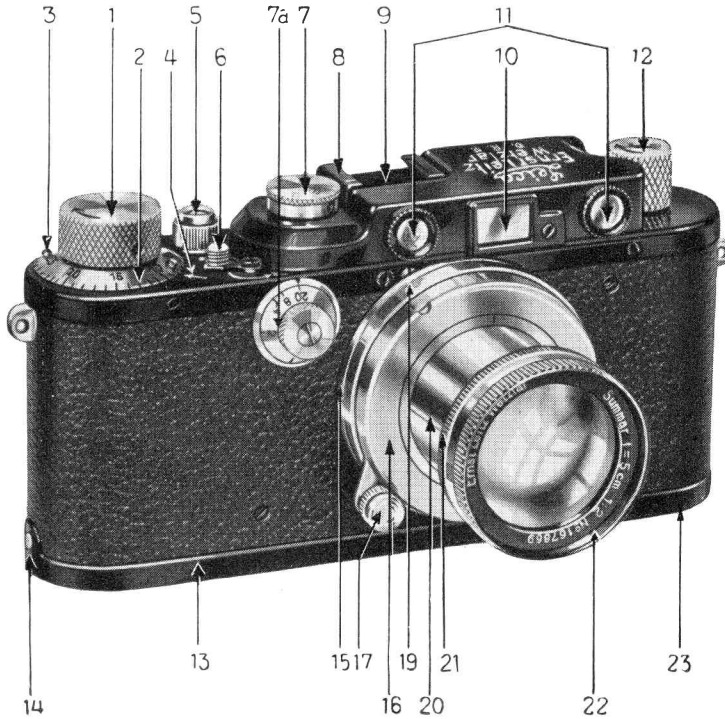

Fig. 18
2. Adjust iris diaphragm by means of lever or ring **21** (Fig. 18).